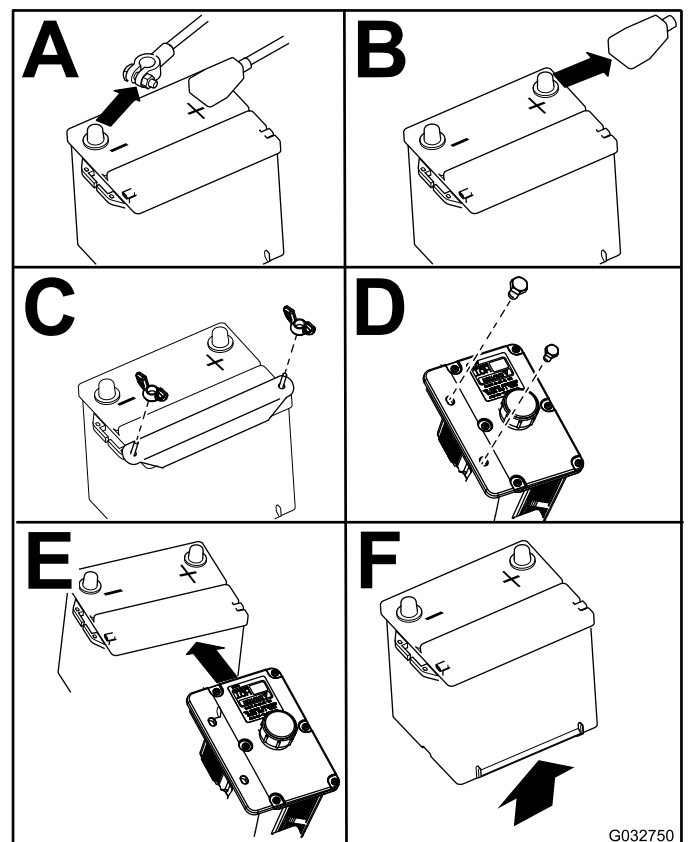

Figure 42
4. Remove the battery as shown in Figure 42.